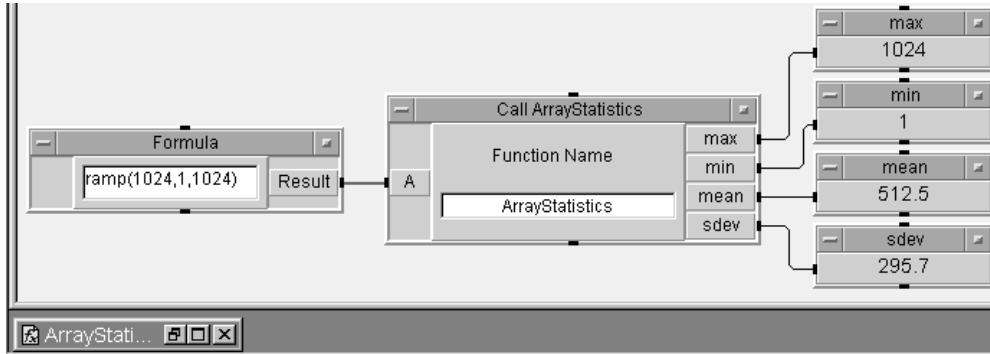

Figure 11.4. ArrayStatistics program after running
17. Connect the Formula output (Result) to the Call ArrayStatistics input (A).
22. Run this program. It should look like Figure 11.4. Note ArrayStati... in the lower-left corner.